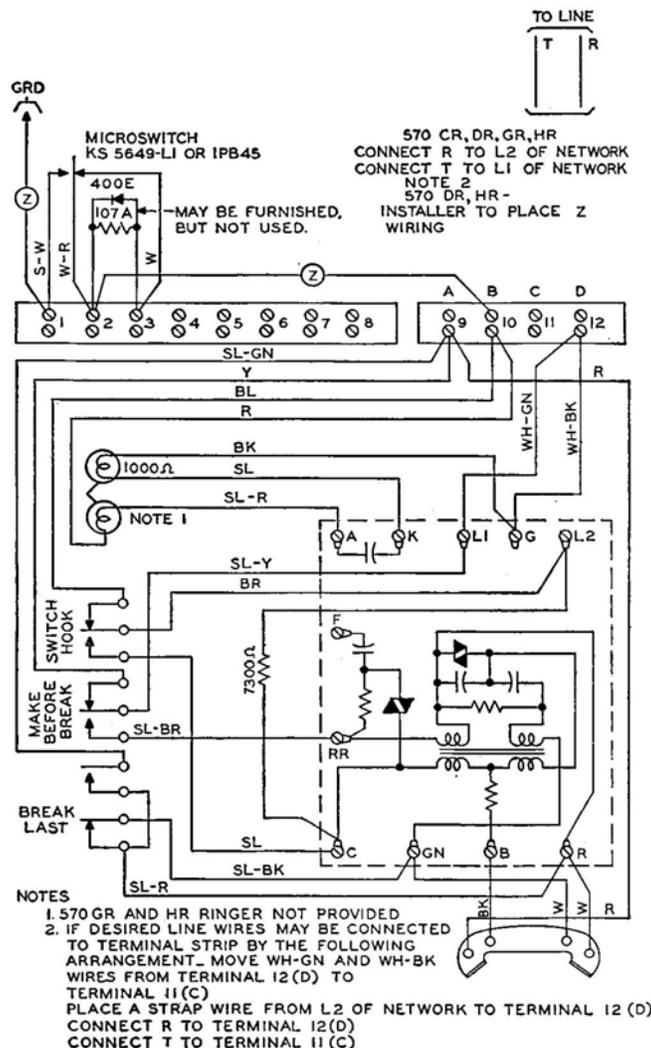

FIG. 9—WIRING USED IN EARLY MODEL SETS
3.15 Wiring used in early model sets is shown in Fig. 9.